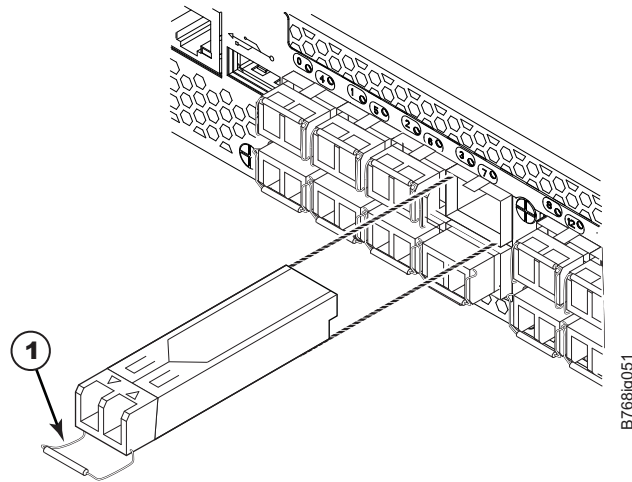

Figure 46. Removing and replacing an SFP+ optical transceiver
3. Using the hooked end of the tool, pull the bail (wire handle) **1** away from its pivot point and out, sliding the transceiver out of the port (Figure 46).